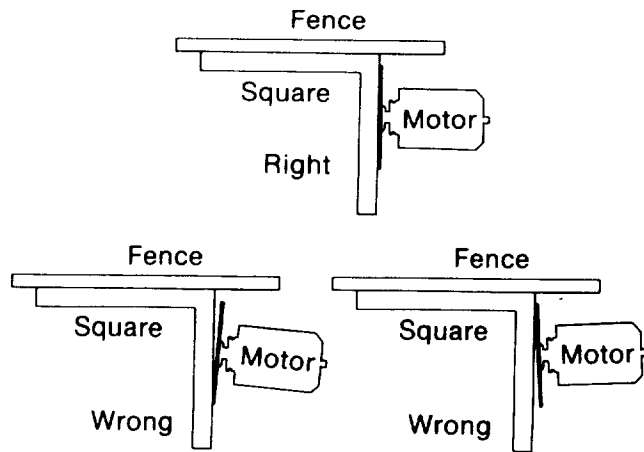

Fig. 90
5. If the square is flush with the *blade* after each rotation, no change is needed. (Figure 90) Go to the next section, or
If there is a gap between the square and the *blade* after any rotation, go to step 6. (Figure 90)